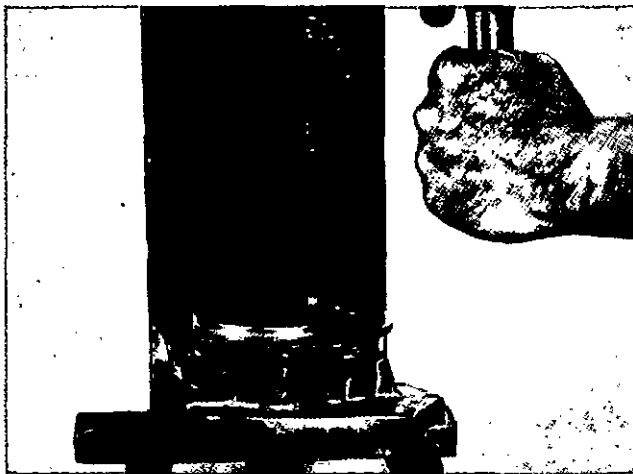

Fig. 3-11, (F543). Install the inside oil seal in the drive cover.
- a. Install the oil seals into the old style front cover with 3375173 Seal Driver. Install the seals even to 0.015 inch [0.38 mm] below the surface, Fig. 3-11.